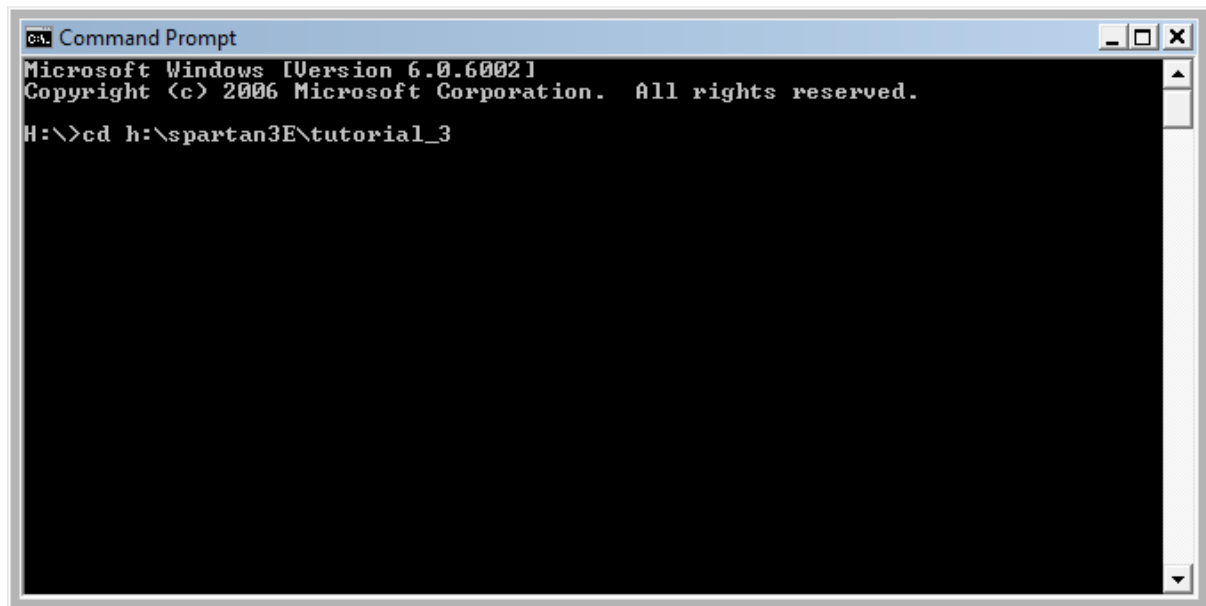

Figure 6.3: DOS Command Prompt window, after changing to working directory.
2. Use the **cd** command to change into the **tutorial_3** working directory, as shown in Figure 6.3.